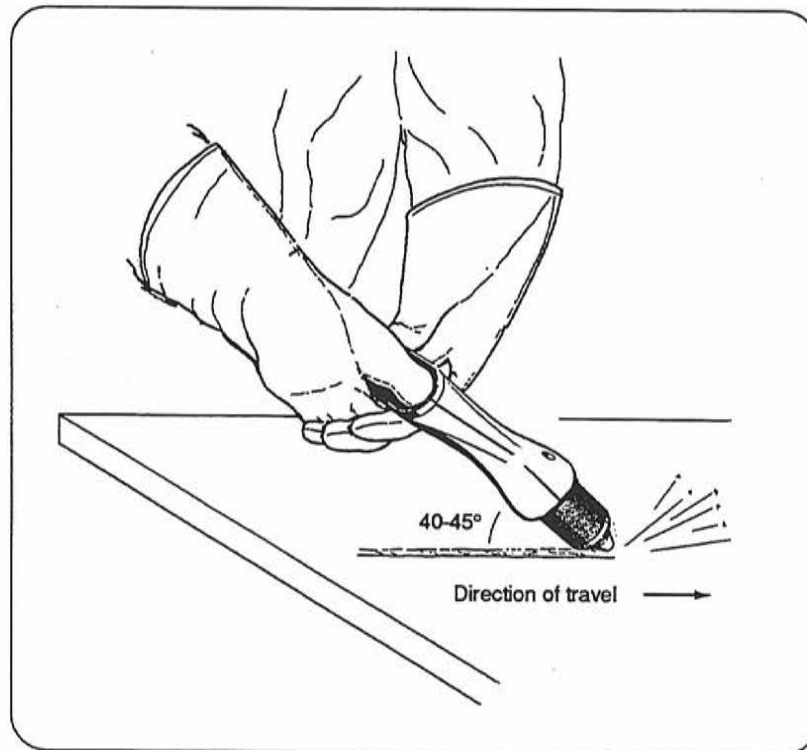

Figure 4-9 Gouging
- Tilt the torch approximately 40-45° from the surface to be gouged and feed into the gouge. Try not to allow the nozzle to come into contact with the plate, since this can cause premature wear. Multiple passes or "wearing" may be necessary to gouge wider and deeper sections. (See Figure 4-9.)